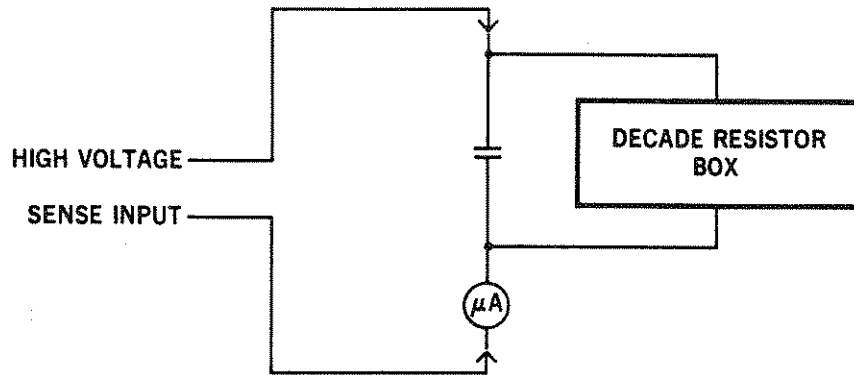

Figure 5-1. Connections for Leakage Current Accuracy Verification
STEP 3. Connect the decade resistance box and the capacitor in parallel. Connect one lead of the ammeter to one side of this parallel combination. Refer to Figure 5-1.
- STEP 4. Connect the other lead of the ammeter to the Sense Input probe on the test head. Refer to Figure 5-1.
- STEP 5. Connect the other side of the parallel combination (the side **not** connected to the ammeter) to the High Voltage probe on the test head. Refer to Figure 5-1.